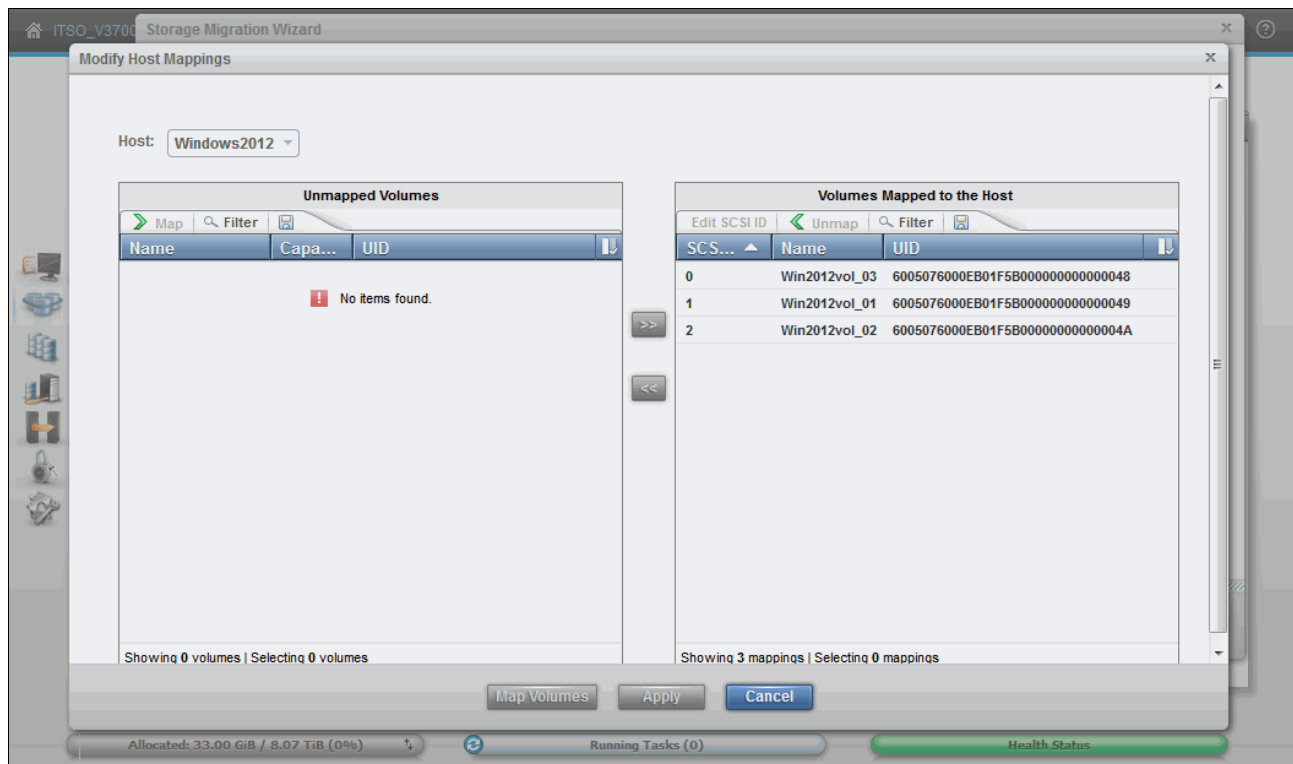

Figure 6-58 Canceling out of Modify Host Mappings
12. If everything is correct, use the **Cancel** option, as shown in Figure 6-58. This is normal and is not an indication that the wizard is being canceled. The volumes have been successfully mapped, indicated by the fact that there are no volumes highlighted in yellow, and the only option available is **Cancel**.